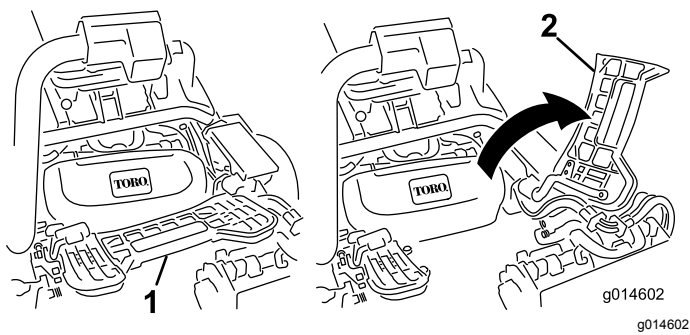

Figure 10
3. If installing the center cutting unit, lift up on the foot rest and swing it up, allowing access to the center cutting unit position (Figure 10).